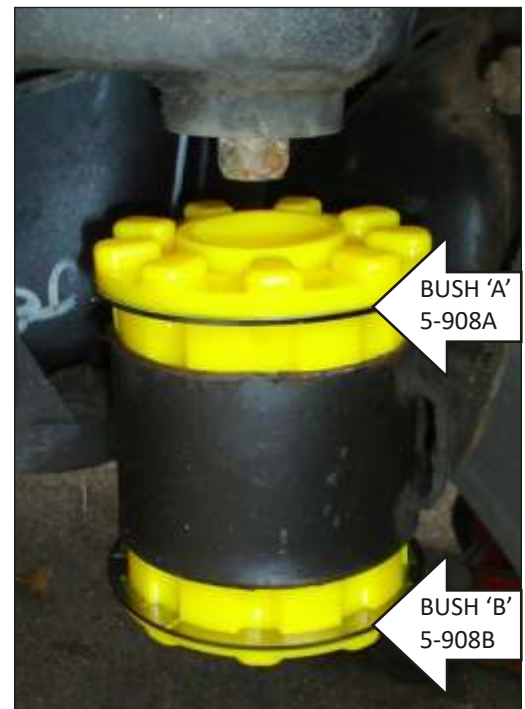

Fig 1. Front mount - partial bush fitment.
3. Hand fit new Powerflex bushes into the subframe. Note; bush marked 5-908A is the upper half bush, 5-908B is the bottom half bush, refer to Fig 1.